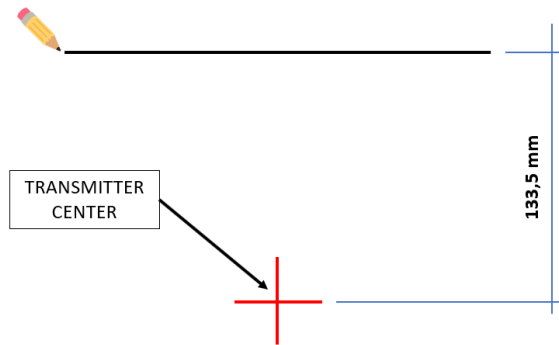

Figure 7
- 2.2. Draw a line parallel to the waterline 133.5mm above the center just marked (fig. 7).